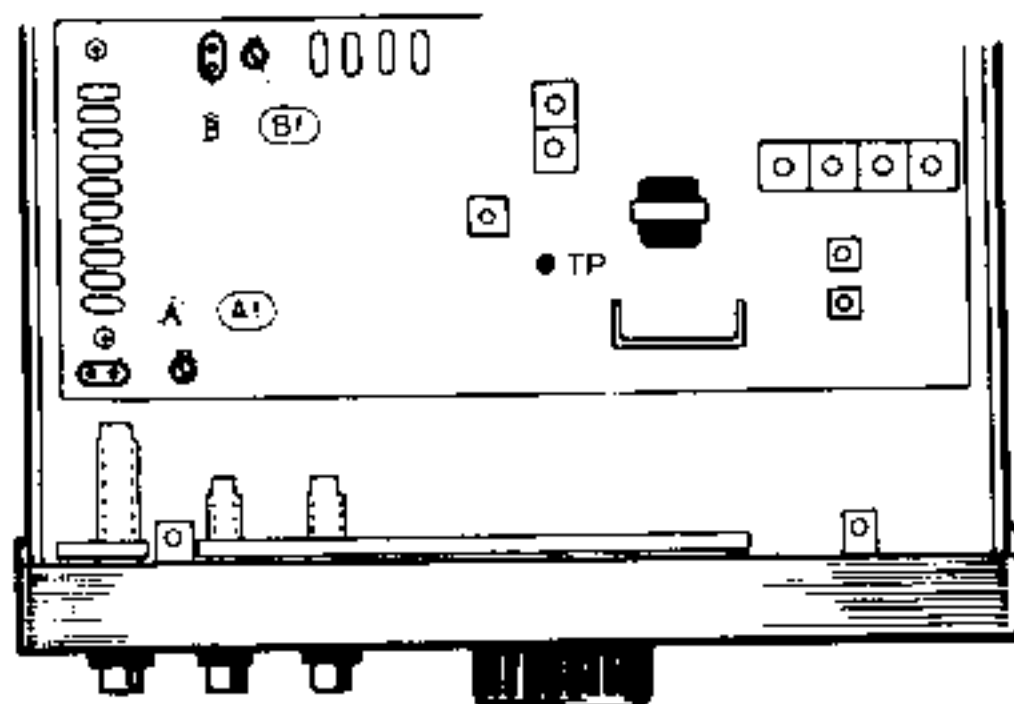
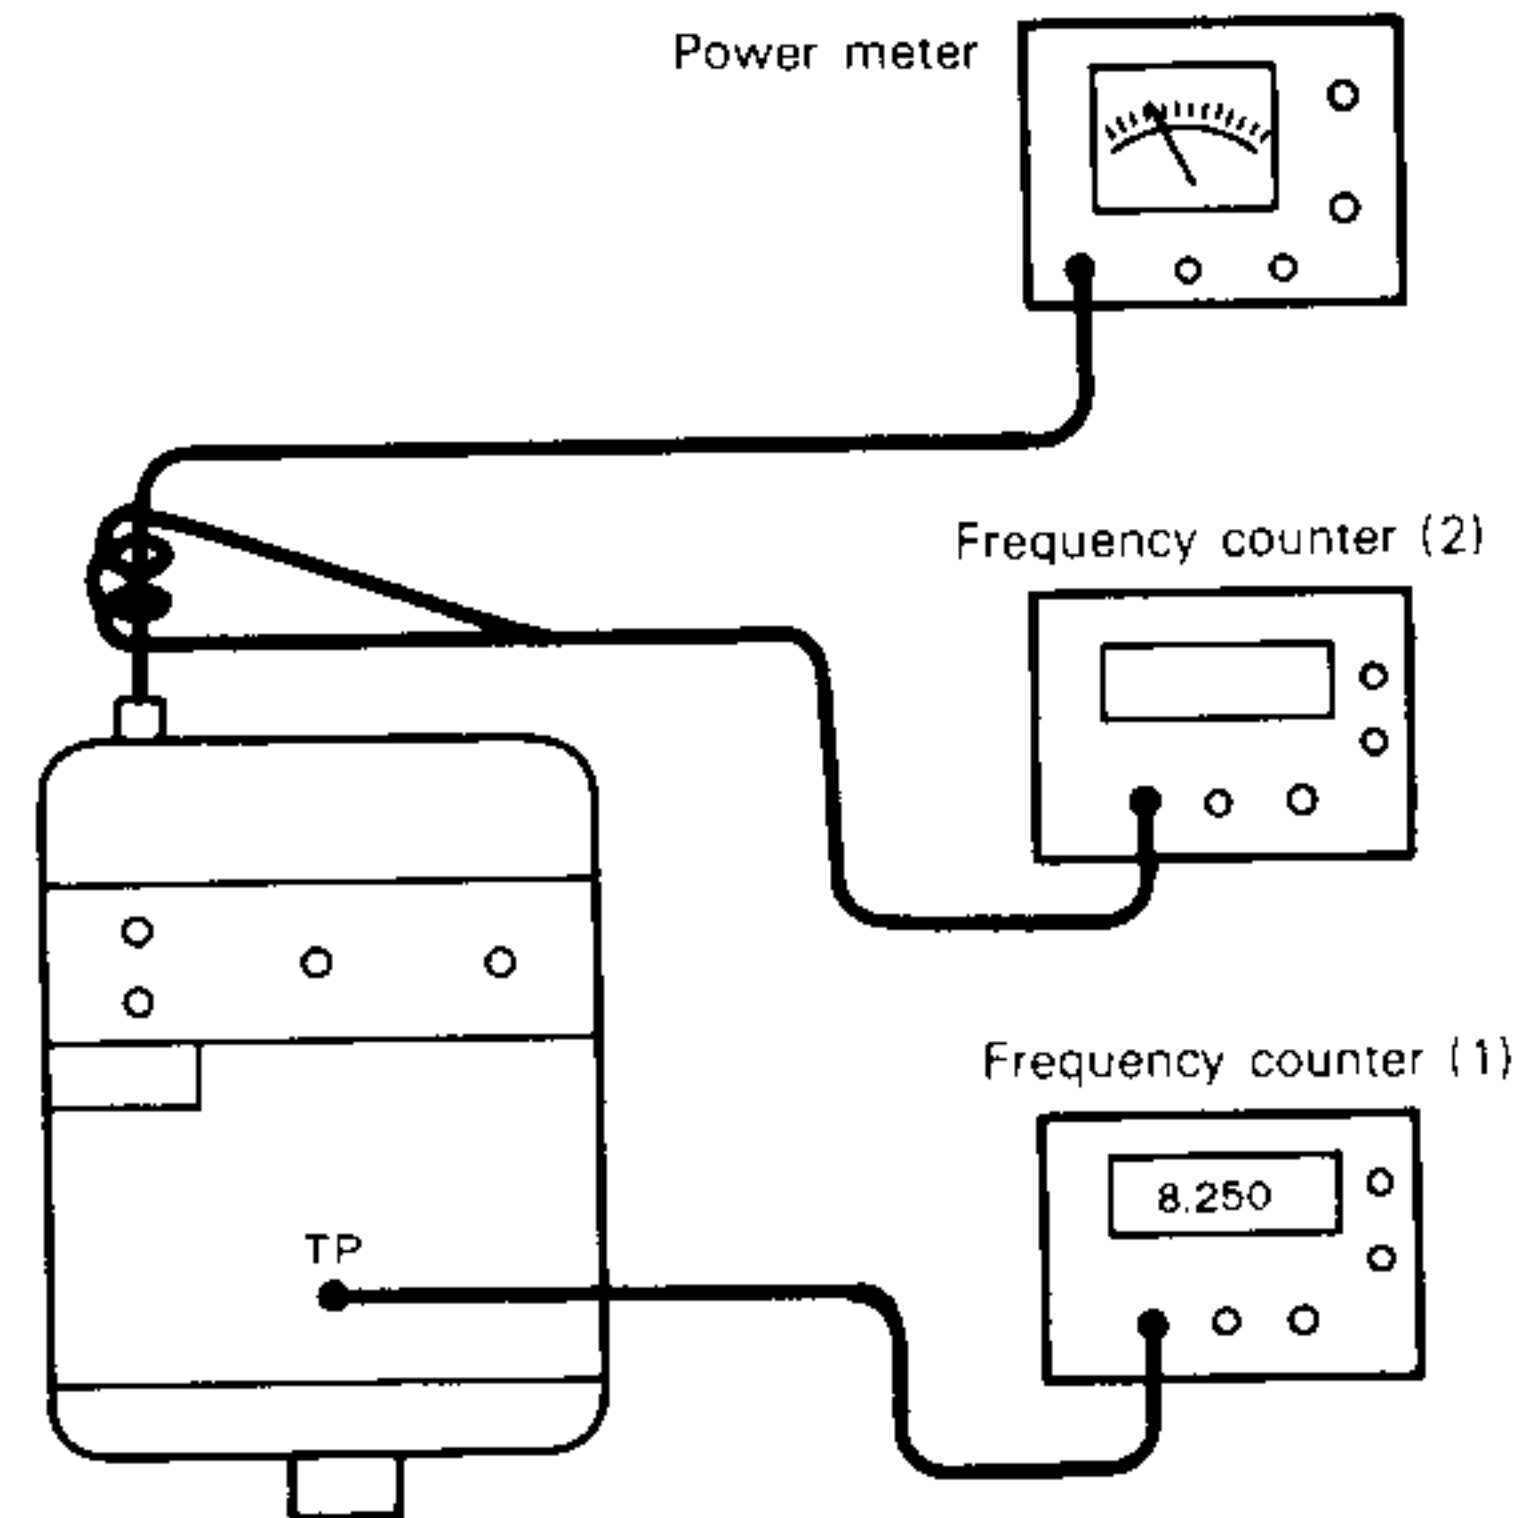

FIG. 18 INSTALLATION OF OPTIONAL CRYSTALS
FIG. 19 FREQUENCY ADJUSTMENT
Remove the upper lid of the case fixed with 2 screws. Then, insert the crystal of desired channel into the crystal socket on the printed circuit board (Fig. 18).
- (1) Connect the frequency counter (1) to the TP terminal and the power meter to the ANT terminal (see Fig. 18 and Fig. 19).
- (2) Perform adjustment on the bands of additional channels by referring to Table 3 below.
- (3) Connect the frequency counter to the point (2) and set the unit in CW transmit mode. Change the position of the channel indicator from A to B, C and D to check that the frequency increases by 5kHz at each position.
| Band  | Channel Indicator | Adjusting Frequency                          | Adjusting Trimmer (Fig. 18) |